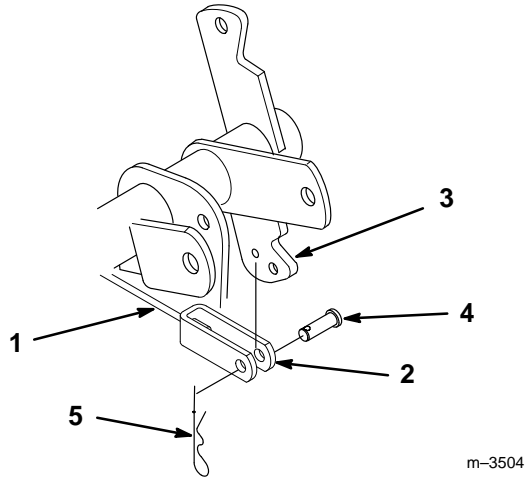

Figure 14
8. Attach the clevis end of the lift cable to the rear hole in the tractor's attachment lift arm located just in front of the previously installed cable guide (Fig. 14). Insert a clevis pin and hairpin cotter.
Note: Attachment lift arm may be different than shown in Fig. 14. On some models there may be only a single hole in which to mount the clevis.